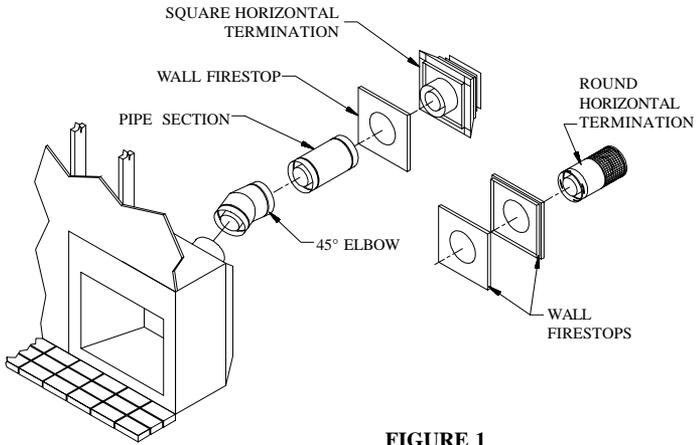

FIGURE 1
- Horizontal Termination (Fig 1 and Fig 2)